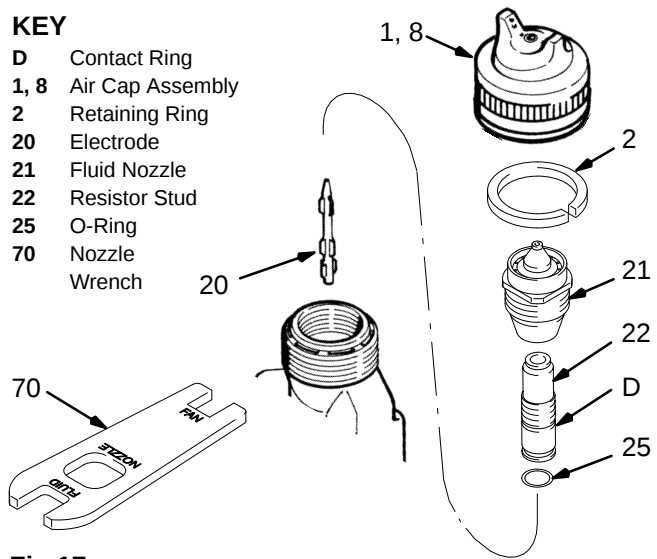

Fig 17
1. Remove the air cap assembly. Point the front end of the gun up and squeeze the trigger while removing the fluid nozzle/resistor stud (21, 22) assembly with the nozzle wrench (70). Refer to Fig 17.